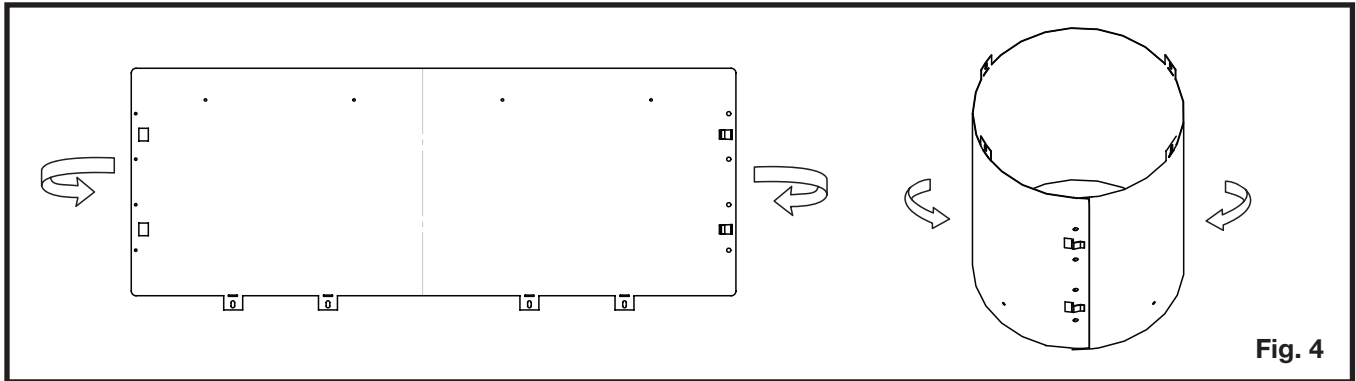

Fig. 4
4. Roll the vent sleeve as shown and ensure to clip the ends together (**Figure 4**).